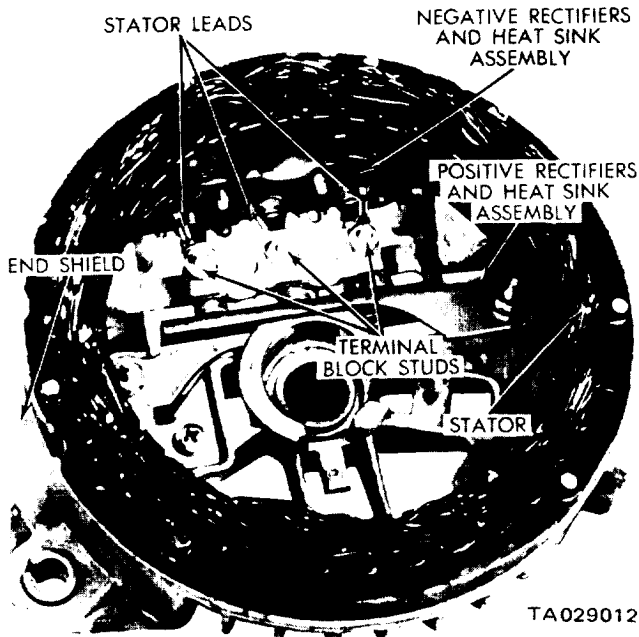
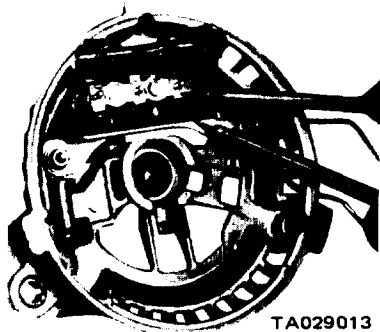

Figure 14-3. Rectifier End Shield and Stator Assembly.
Figure 14-4. Testing Rectifiers with Ohmmeter.
(1) Remove the nuts from the terminal block studs that secure the stator windings. Remove the nuts securing the positive and negative rectifier straps to the block. See figure 14-3.
(2) Lift off the stator winding terminals and carefully pry the stator assembly from the end shield.
(3) Test the rectifiers using the ohmmeter portion of the multimeter. Contact the heat sink of a rectifier plate with one test probe; contact the strap on top of the individual rectifier with the other test probe (figure 14-4).